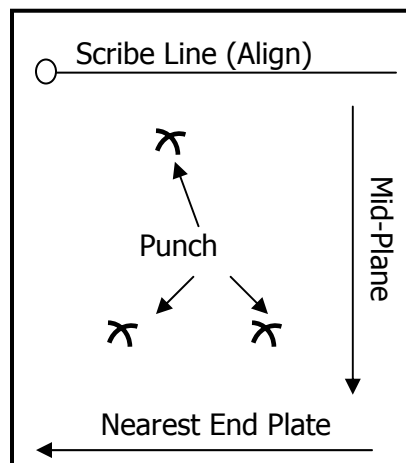

Figure 2
- 4.1.5 Using Mylar Template #1 provided, align the line indicated on the template to be coincident with one of the scribe lines, placing the circle on the template concentric with the appropriate punch mark made in the previous step. Use the arrows on the template to ensure proper orientation. See Figure 1 & Figure 2